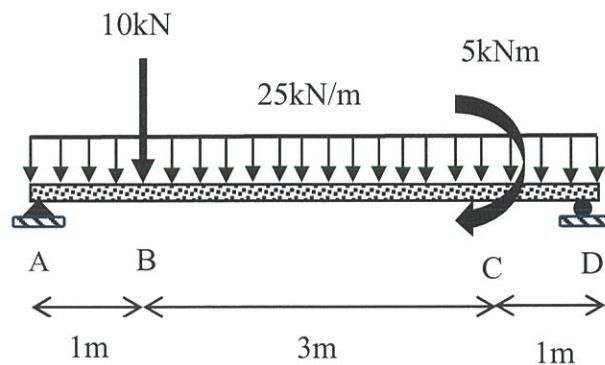

Figure 2(b) / Rajah 2(b)
- CLO1 (b) A simply supported beam is loaded to uniformly distributed load, point load and moment as shown in Figure 2(b). Calculate the reaction force at support A and D including free body diagram.
- CLO2 (c) Based on Figure 2(b), illustrate the shear force diagram (SFD) including value at each point.